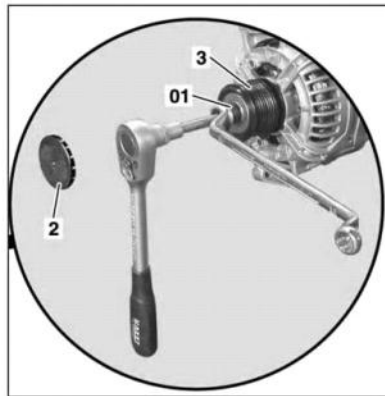

Figure 2 P-B-13.20/03
4. Use a **17 mm** wrench on the end of the socket wrench tool and hold it stationary (allow it to contact the frame/sub frame). Insert socket through the center of the socket wrench tool and into the end of the alternator shaft. For Bosch alternators, use M10 socket W601 589 00 10 00 and for Valeo alternators use a long Torx 50 socket available commercially. Turn the socket clockwise to remove the pulley (Figure 2). Remove spacer on Valeo alternator (Figure 3).